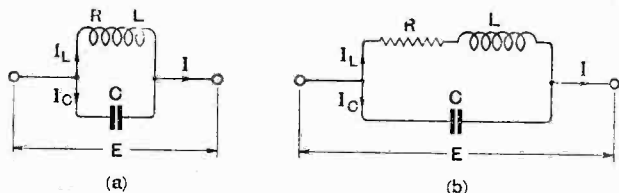
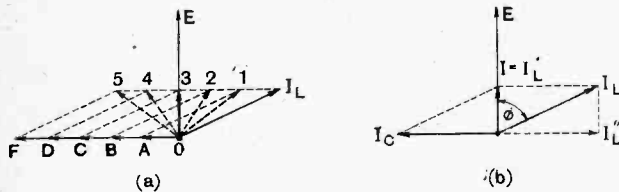

Fig. 1.—Parallel circuit (a) in which the inductance contains resistance and (b) the electrically equivalent circuit.
Fig. 3.—(a) Vector diagram to show that the current is a minimum when in phase with the voltage. (b) Vector diagram of parallel circuit tuned to resonance.
Suppose now that the capacity C could be varied over a wide range, the frequency being fixed; then the current in the coil would remain unchanged, and the condenser current I_C would be directly proportional to the capacity, so that the resultant current I would vary both in phase and in magnitude. In the vector diagram of Fig. 3 (a) the dotted line vectors, 1, 2, 3, 4, 5, show the resultant current for the several values, $O A$, $O B$, $O C$, $O D$, $O F$, respectively, of the condenser current. Now, obviously the shortest of these vectors is No. 3, which is exactly in phase with the applied voltage E , and therefore there is a certain value of condenser current I_C which will make the main current I a minimum, this minimum current being in phase with the applied E.M.F. Under these conditions the impedance Z of the circuit is clearly a maximum. When this occurs the circuit is tuned to complete resonance with the frequency f of the applied voltage. It should be noted here that the conditions are exactly
ries connected in series with a pure resistance of R ohms, and thus the parallel circuit of Fig. 1 (a), where the inductance coil possesses resistance R , is equivalent to the circuit of Fig. 1 (b), where the coil L has no resistance and the resistance R is free from inductance.
In tuning a parallel circuit to resonance then we are arranging the circuit to offer the greatest possible impedance to currents of a certain desired frequency or wavelength and to offer a low impedance to currents of other frequencies, and the observations made with regard to selectivity and signal strength in connection with the series circuit can be applied in general to the parallel circuit. The resonance curves showing the relation between frequency and impedance must reach as high a maximum value as possible at the resonant frequency, and the peak must be as sharp and pointed as possible. From the phase relations shown by the vector diagram of Fig. 3 (b) we can find what the necessary conditions are for obtaining the highest possible impedance at the frequency of complete resonance. At this frequency we saw that the result-
The maximum impedance Z of the circuit of Fig. 1, obtained when it is tuned to complete resonance, is equal to the ratio of the applied voltage E to the main current I drawn from the source of supply, i.e., Z = E/I ohms. But from the vector diagram of Fig. 3 (b) we see that I = I_L cos φ = $\frac{E}{Z_1} \cos \phi$, from equation (1) above. Therefore the circuit impedance